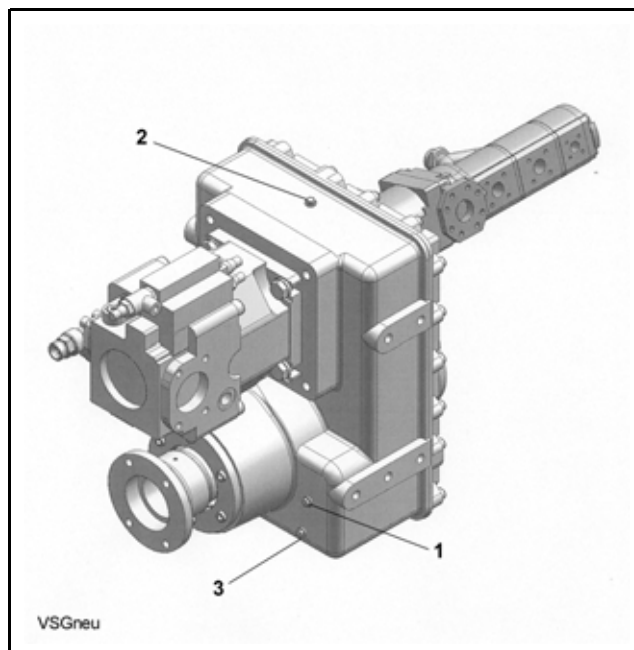

Fig. 296 Distribution manual transmission gear
- Unscrew the inspection plug (1) (**Fig. 296**).
- If necessary, top up oil through the filling and breather screw (2) until it overflows at (1).
- Wash screw (2) with fuel and blow out with compressed air.
- Unscrew drain plug (3); close after emptying.